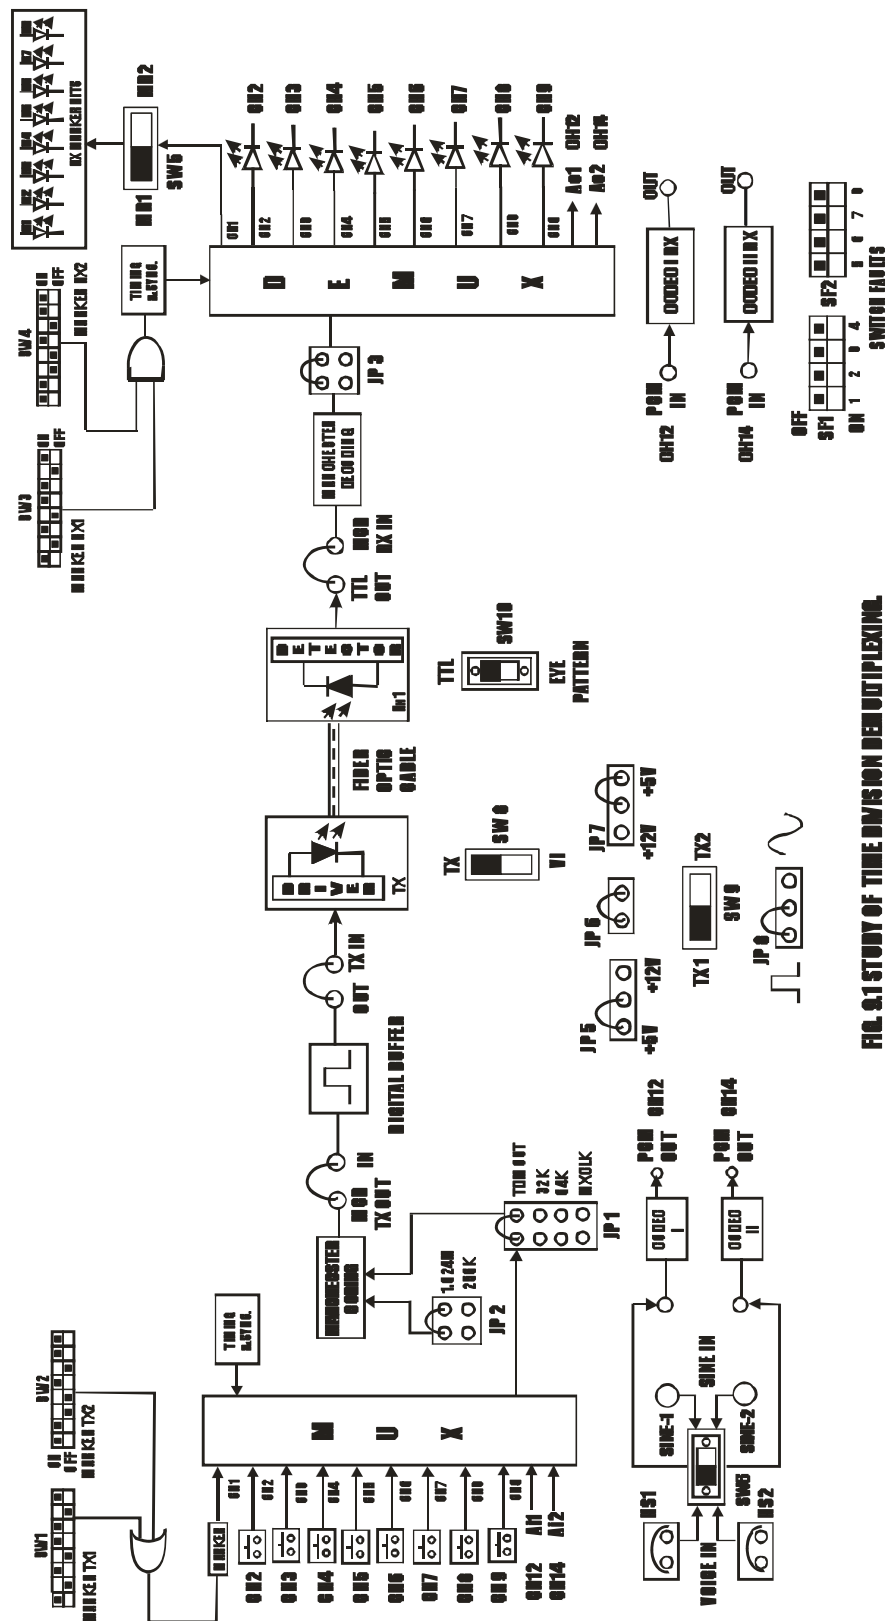

FIG. 9.1 STUDY OF TIME DIVISION DEMULTIPLEXING
- Keep the jumper & switch settings as shown in fig.9.1.
- Select the fiber optic transmitter TX1 SFH756 using jumper & switch settings as shown in fig.9.1.